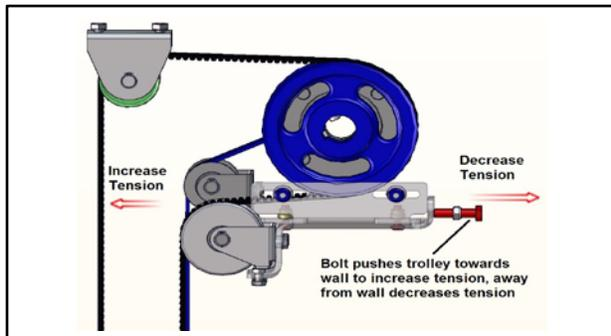

Figure 44
- If additional tension on the L – Size door is required the trolley at the top of the side column can be adjusted for additional tension. (See Figure 44.)